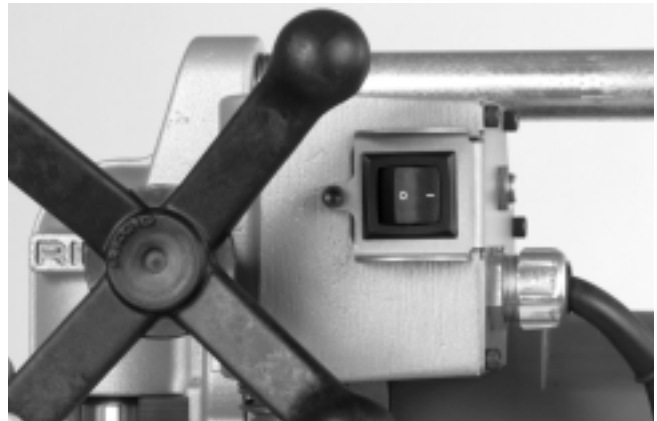

Figure 20 – Model HC-300 ON/OFF Switch
1. The Model HC-300 is turned on by depressing an **ON/OFF** switch located on the side of the unit behind the feed wheel. (Figure 20)